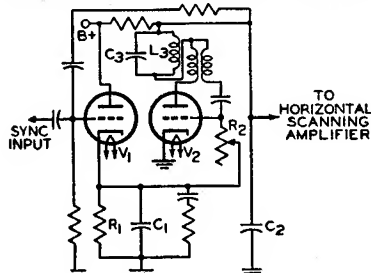
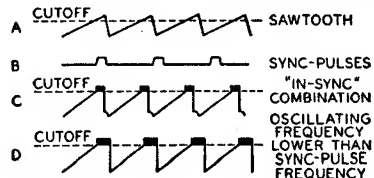
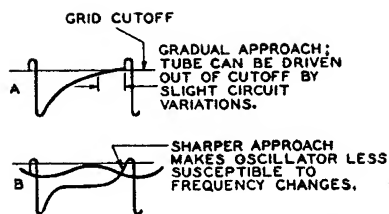

Fig. 77—Simplified synchroguide circuit, that properly locked-in horizontal scanning results.
Fig. 78—Sawtooth and sync pulses in synchroguide circuit.
Fig. 79—Waveforms showing effect of tuned circuit L_3C_3 in Fig. 77.
The "synchroguide" is a controlled type of oscillator used in television receivers to generate and control the synchronized sawtooth voltage necessary for adequate line- or horizontal-frequency scanning. A simplified synchroguide circuit is shown in Fig. 77. This circuit provides stable, noise-free control
The triode V_2 in Fig. 77 is a conventional blocking oscillator which enables a sawtooth voltage to be developed across the capacitor C_2 . A portion of this sawtooth is fed back to the grid of the control tube, V_1 . The positive sync pulses are also applied to the grid of V_1 . The waveforms shown in Fig. 78 illustrate the sawtooth and sync pulses (A and B) and their proper "in-sync" combination (C). The sync pulse occurs partly during the portion of the sawtooth voltage in which the triode V_1 draws current. Any shift in sync pulse as it is superimposed on the sawtooth, therefore, will affect the amount of conduction of the control tube. A change in control-tube conduction ultimately affects the bias on the oscillator-tube grid by changing the voltage to which the capacitor C_1 in the cathode circuit may charge. An increase in the positive bias increases the frequency of oscillation.
For example, waveform D in Fig. 78 illustrates a condition in which the sawtooth voltage is advanced in phase
The blocking oscillator can be made more immune to changes in frequency and noise if V_2 is brought out of cutoff very sharply. This effect is obtained by sine-wave stabilization. The tuned circuit L_3C_3 in the plate circuit of Fig. 77 superimposes a shock-excited sine wave on the plate and grid waveforms, as shown in Fig. 79.